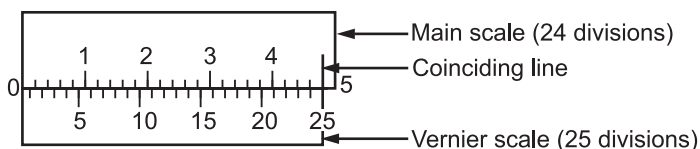

Fig. 1.3: Vernier scale with main scale
- Refer Fig. 1.3 showing main scale having each graduation or division of 1 mm. So 25 divisions show the total length of main scale as 25 mm, whereas, 25 divisions on vernier scale measure 24 mm. Therefore, value of each division on vernier scale = $\frac{24}{25} = 0.96$ mm.
- (1) L.C. = Main scale division – Vernier scale division